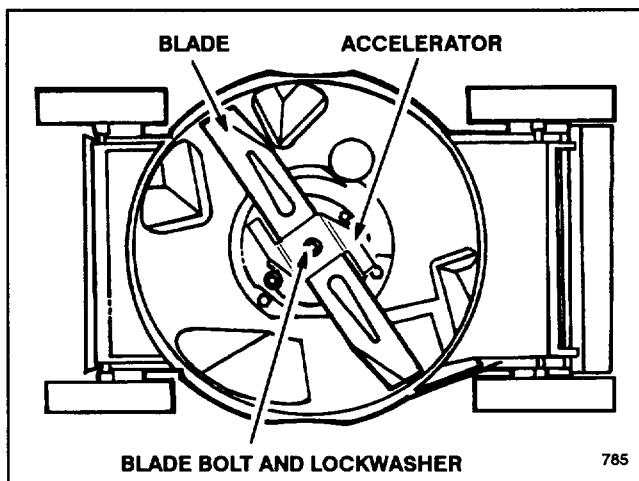

Figure 16
3. Tip mower on its right side (Fig. 16). Avoid rotating blade as starting problems may result.
5. **REMOVING BLADE**—Grasp end of blade using a rag or thickly padded glove. Remove blade bolt, lockwasher, accelerator, and blade (Fig. 16).